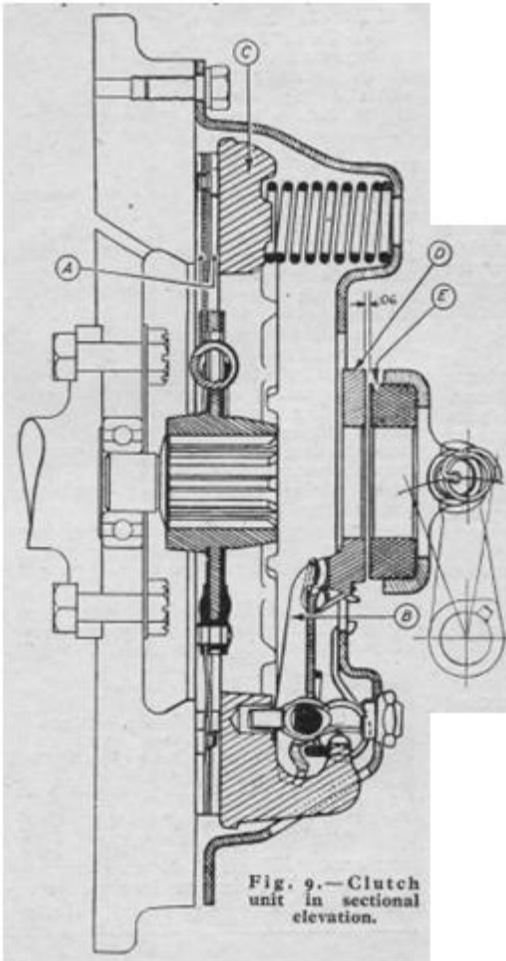
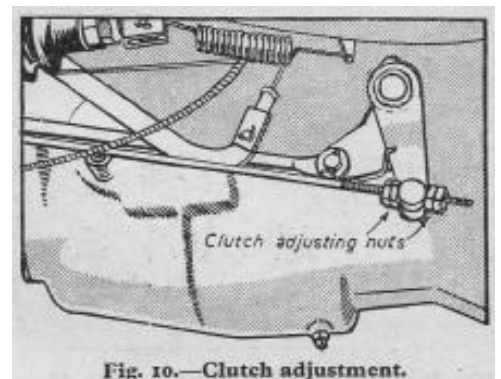

Fig. 9.—Clutch unit in sectional elevation.
Fig. 10.—Clutch adjustment.
The clutch (see Fig. 9) is of the single dry-plate type, consisting of a driving plate assembly splined to the gearbox constant pinion shaft's forward extension; a cover assembly and a release bearing which is operated by a fork mounted on the clutch cross shaft.
As wear occurs to the friction facings (A), the outer ends of the release levers (B) will move with the pressure plate (C) closer to the flywheel, and the inner ends of these levers will move outwards with the release lever plate (D) thus reducing the clearance between (D) and (E). It will be understood, therefore, that as this necessary clearance of 1/16in. (.0625in.) is reduced by wear it is necessary to restore it by suitable adjustment of the fork which carries the release bearing carrier. This is effected by alteration of the adjusting nuts shown in Fig. 10.
After exchange of the centre plate, which does not require any alteration to the clutch cover assembly, nor, indeed, must such be attempted, it is merely necessary to adjust the four nuts shown in Fig. 10, until there is an inch of free movement at the pedal pad, which represents the necessary 1/16in. clearance between (D) and (E) (see Fig. 9).